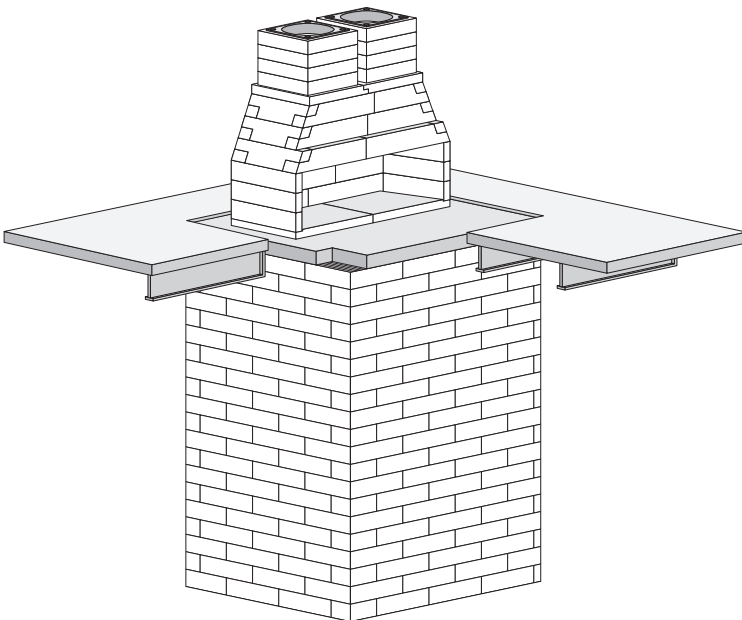

FIGURE 4.2
2. **Concrete Pad Supported by Masonry (CMU) Tower (Figure 4.2):** Typically used when the fireplace is placed over a basement or crawl space. The noncombustible pad is best made from a 6" thick concrete slab with #4 rebar tied together at maximum 12" intervals, center poured on top of corrugated metal. Concrete pad must be supported by a full masonry tower with no combustible underpinnings to withstand the weight of the firebox and flue system.